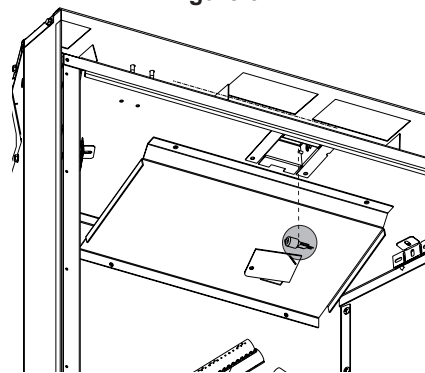

Figure 35
2. Remove old light bulb and replace with new one. **See Figure 35.**